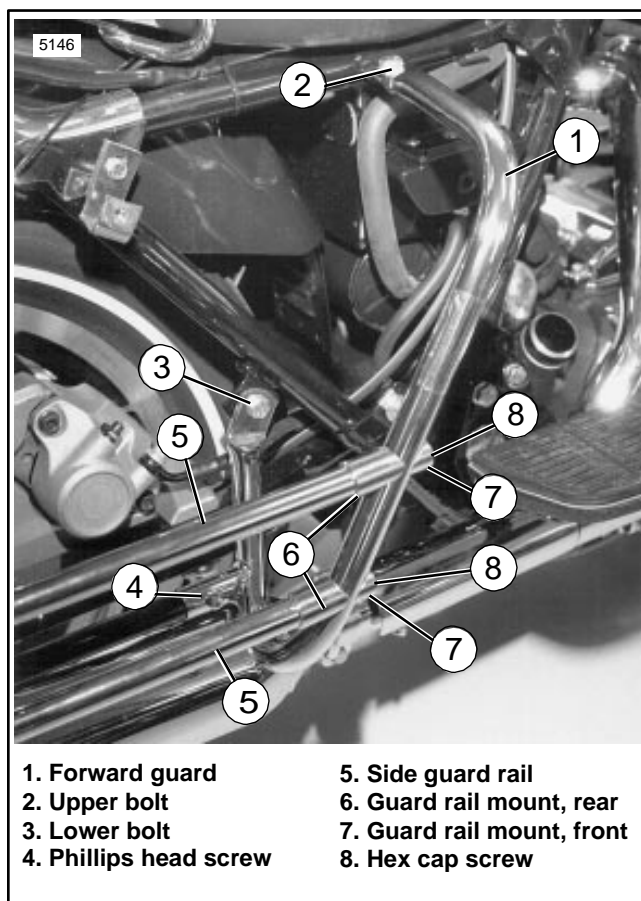
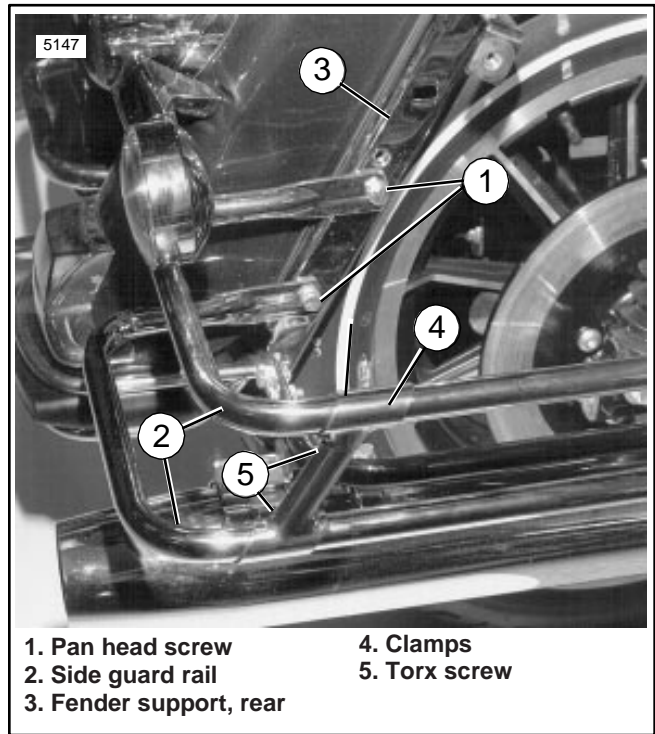

Figure 1. Forward Section of Saddlebag Guard Kit
Figure 2. Rear Section of Saddlebag Guard Kit
4. See Figure 1. Install new left and right forward saddlebag guards (1) with upper bolts (2), lower bolts (3) and Phillips head screw (4) saved from Step 3.
5. Insert one rear guard rail mount (6) onto rounded, tubular end of one of the saddlebag side guard rails (5).
6. Insert a hex cap screw (8) through one of the front guard rail mounts (7) as shown.
7. Line up saddlebag side guard rail (5) with attached rear guard rail mount (6) from Step 5 with lower hole in forward saddlebag guard rail (1). Insert hex cap screw (8) from front guard rail mount (7) through hole in forward guard rail (1) and into side guard rail assembly. Tighten finger tight.
8. See Figure 2. Install a side guard rail (2) in lower position on rear fender support (3) with pan head screw (1). Tighten finger tight.
11. See Figure 2. Locate four guard rail clamps (4). Match up two left side and two right side guard rail clamps. Install one piece of cushion tape to the lower inner surface of right and left inner clamps. Peel off paper from outer surface of tape. *Do not apply tape to the outside clamps.*
12. See Figure 2. Position clamps (4) in desired position on side guard rails (2). Install clamps (4) on left and right side of vehicle side guard rails using four Torx screws (5). Torx screw heads should face inward toward motorcycle. Tighten each screw a little at a time until secure.